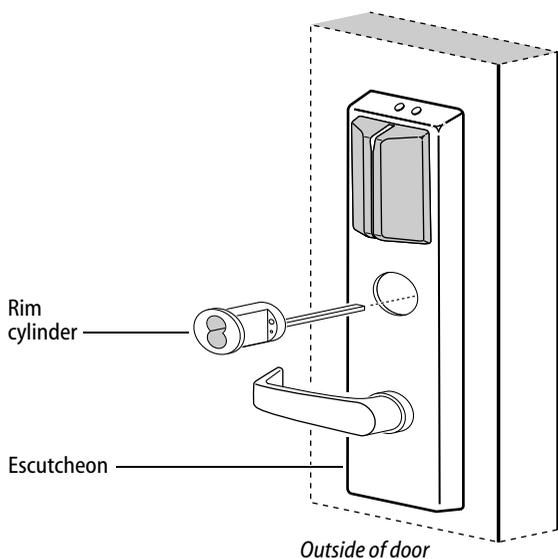

Figure 11a Installing the cylinder
- 2 Insert the cylinder through the cylinder opening in the escutcheon and into the door as shown in Figure 11a.